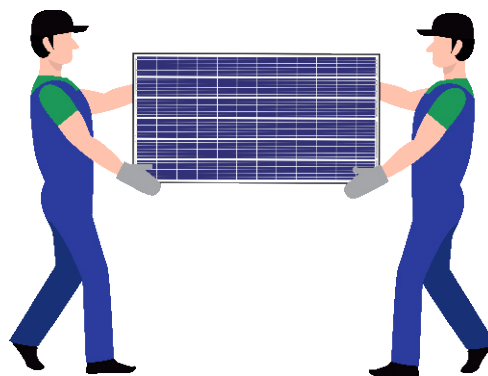

Figure 9
- ◀ Pulling the junction box is forbidden in any case; when raising the module, hold the short edge and pull it out (Figure 9)